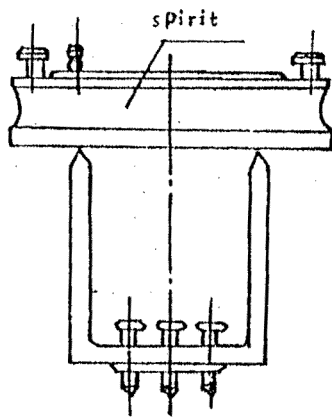

Fig. 4
- 3.1.1 The wheel balancer must be levelled (Fig. 4), check it by spirit.